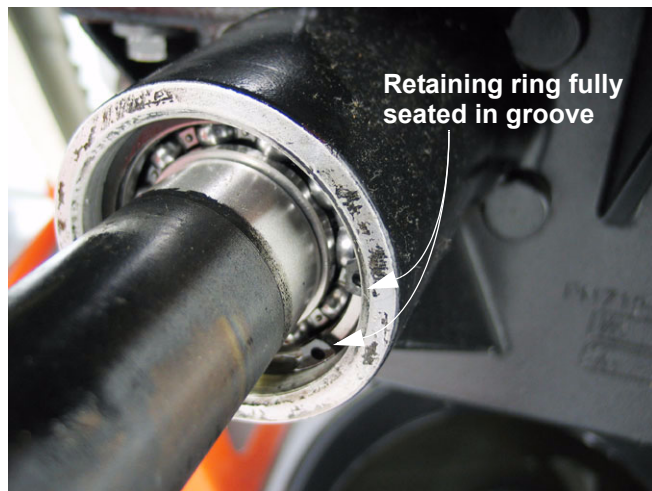

Figure 3.2
- 3.2. Install the retaining ring in the groove in the housing. Confirm that the ring is fully seated in the groove. See Figure 3.2.